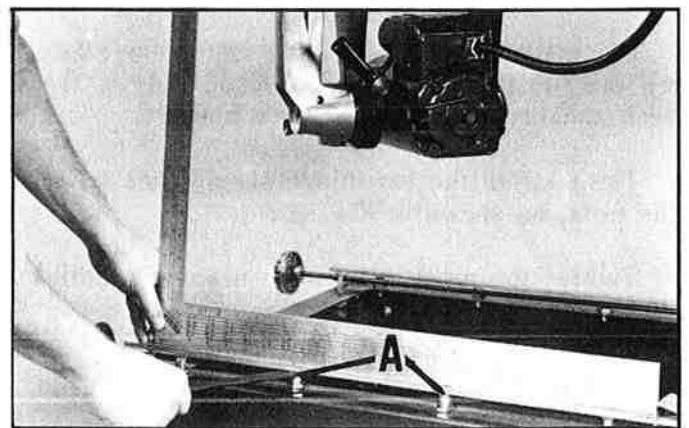

Fig. 17
10. Lay a straight edge on the leveling strips and adjust the center two screws (A) Fig. 17, if necessary.